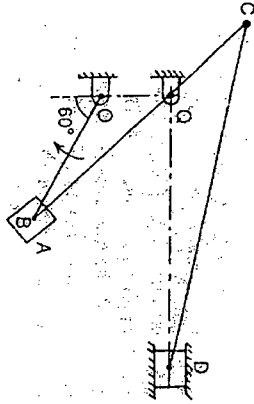

Fig 3
b. i Fig 3 shown below is a Whitworth quick return motion mechanism. The various dimensions in the mechanism are as follows